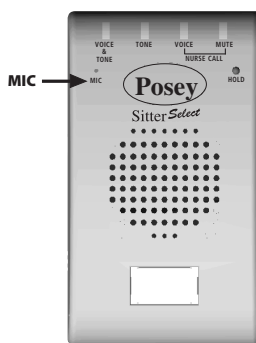

Fig. 10
3. In a normal voice, talk into the microphone aperture labeled “**MIC**” on the front of the unit (see Fig. 10). Note: The volume adjustment will not change the recording volume. The volume at which you speak and your distance from the aperture determines the message volume. To increase the volume, speak in a louder voice closer to the mic.